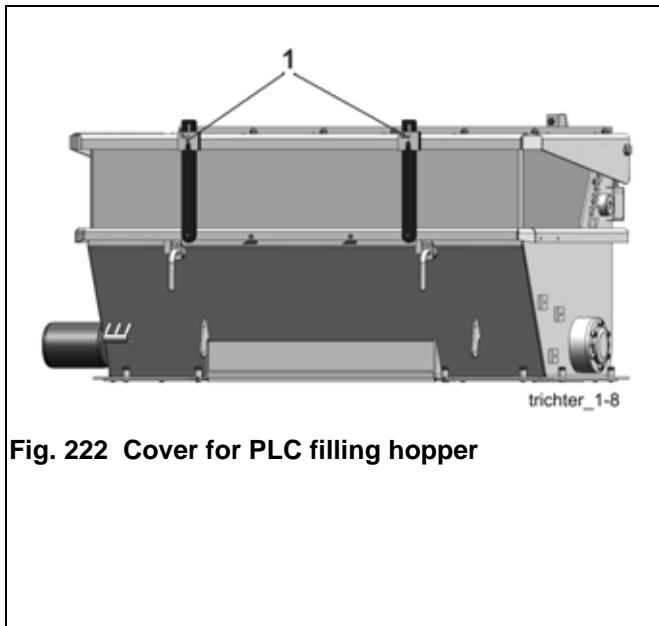
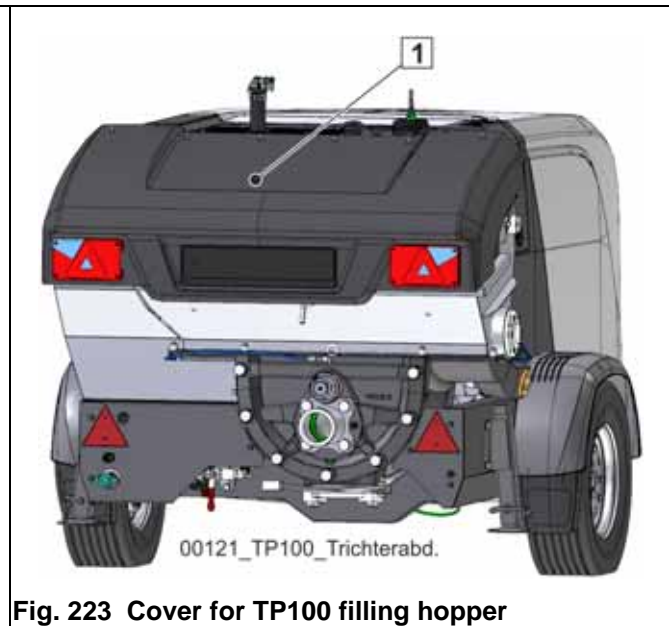

Fig. 222 Cover for PLC filling hopper
Fig. 223 Cover for TP100 filling hopper
- Close the foldable covering for the hopper (1) **(Fig. 222)** / **(Fig. 223)**.
The safety device **(Fig. 222)** releases the overpressure through the lowered hopper rubber border in the back.